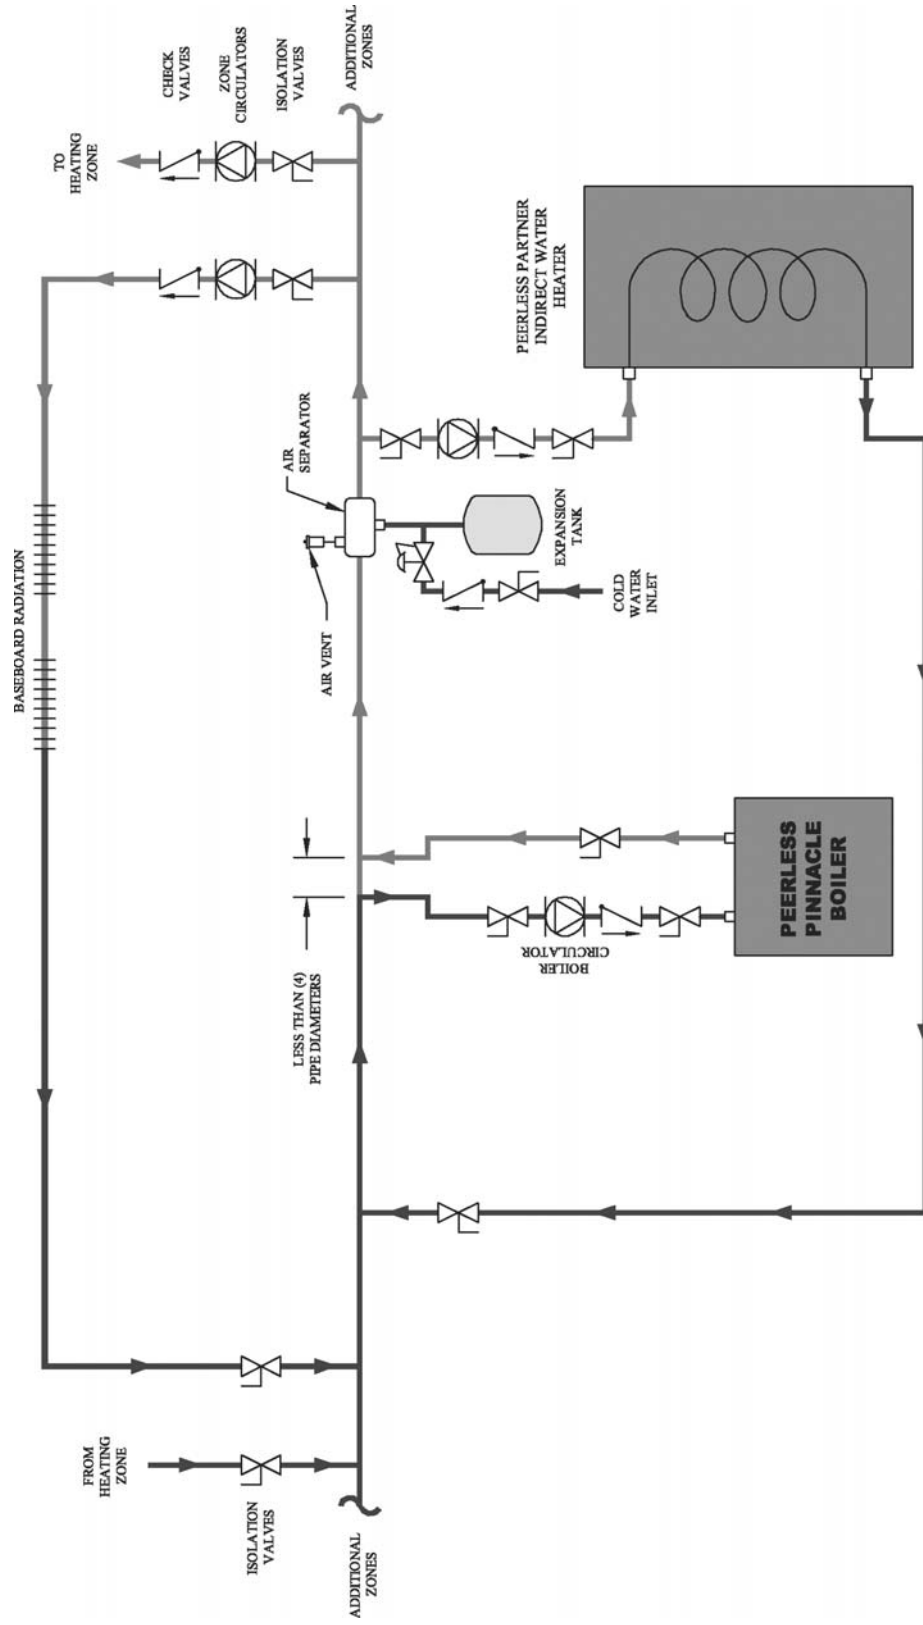

Figure 3.4
1. Figures 3.4 through 3.8 show recommended piping configurations for some typical Pinnacle boiler applications. Since the Pinnacle is a fully condensing boiler, it is not necessary to provide a system bypass to temper the system return water.
- b. Figure 3.4: This diagram shows an additional zone in which baseboard radiation is the heat load. Baseboard radiation typically requires temperatures similar to that of the indirect water heater.